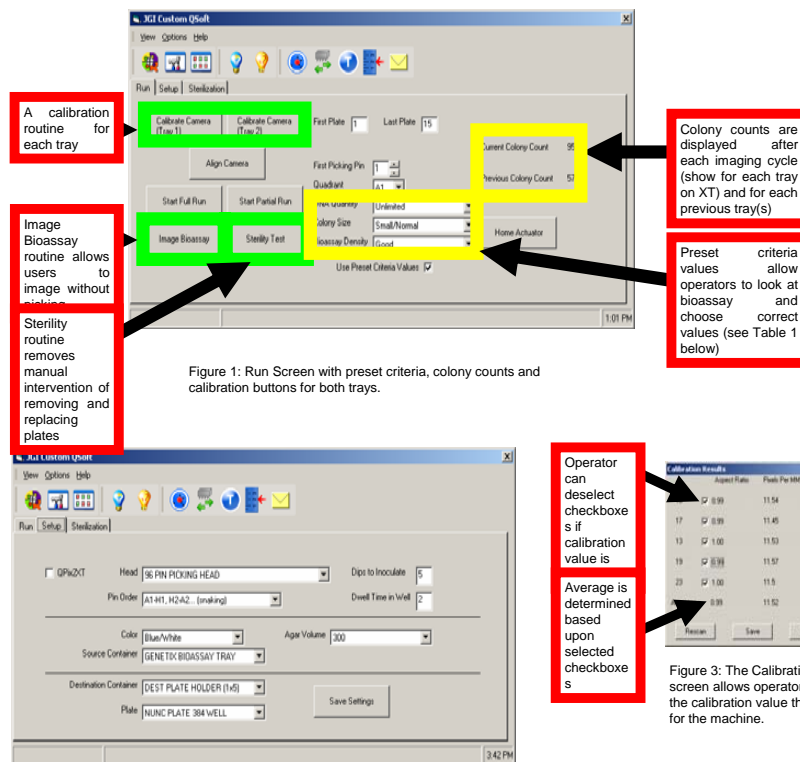

Figure 1: Run Screen with preset criteria, colony counts and calibration buttons for both trays.
- Sterility procedure (Figure 1)
- Image only procedure (Figure 1)
- Calibration procedure (Figure 1 & 3)
- Display colony counts for current plate and previous plate (Figure 1)
The new sterility routine (Figure 1) removes the manual intervention of removing/replacing the bioassay tray on the deck. Colony picker operators can now put a bioassay tray on the deck, image it and come back a few minutes later when 192 colonies have been picked and 192 colonies have been inoculated immediately after sterilization. The new procedure also removes the requirement of putting the bioassay tray back into the instrument in the same orientation as it came out. Putting the plate in at a rotated orientation can lead to many holes appearing in the sterility plate, which can be initially interpreted as instrument failure.
The **image only routine** (Figure 1) is used to count colonies without picking plates. This is useful to the JGI for tracking the plating efficiency and transformation efficiency upstream in the process. In the past, plates would have been discarded without counting colonies or operators would have had to stop the picking routine before the instrument could get to the sterilization tray.
Bioassay tray colony counts are tracked at JGI as metrics for plating, competent cell and transformation efficiency. **Displaying colony counts** (Figure 1) on the Run tab of the software interface eliminated the necessity of the operators to check the QPix picking log for the colony counts.
During Beta testing, it was determined that some colony criteria were not being set correctly – this would result in colonies being picked even though they were too close together. To address this problem a set of values (Figure 1 & Table 1) were created that would be valid for bioassay trays of differing colony count densities, colony sizes and project sizes.